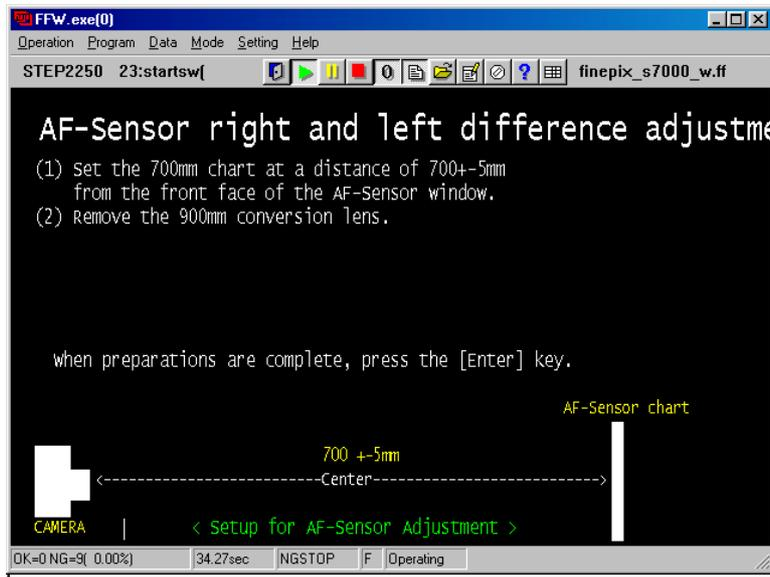

Fig.11
----> The [AF-Sensor adjustment 700mm Screen (Fig.11)] appears.